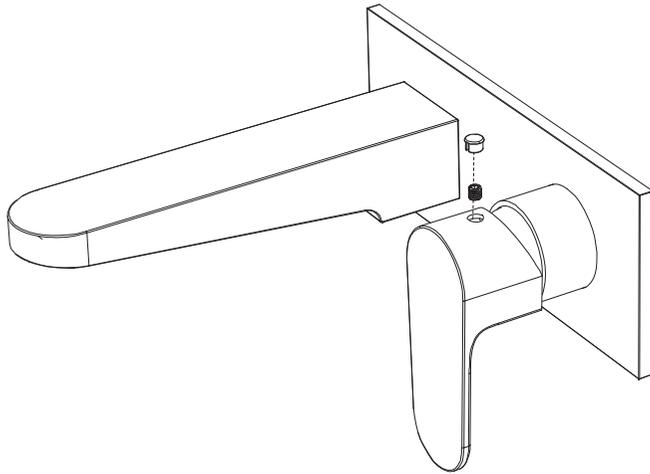

fig. 8
- Attach the handle to the valve ensuring the handle lever is facing down (fig 8)